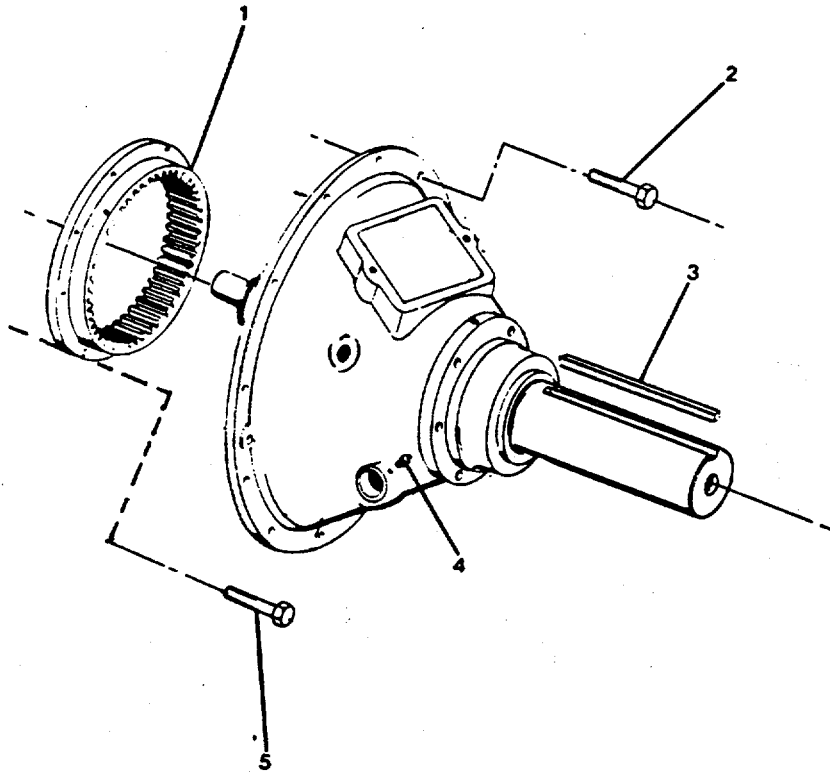

FIGURE 3-54. *Power Takeoff Assembly (SL-111 HP2).*
- a. Remove the shaft key (3, FIGURE 3-54).
- b. Attach a suitable hoist to the PTO. Remove the 12 hex-head capscrews (2) that secure the clutch housing (4) to the engine. Use two pusher screws (3/8-16) in the tapped holes provided in the clutch housing flange and swing the PTO from the engine.